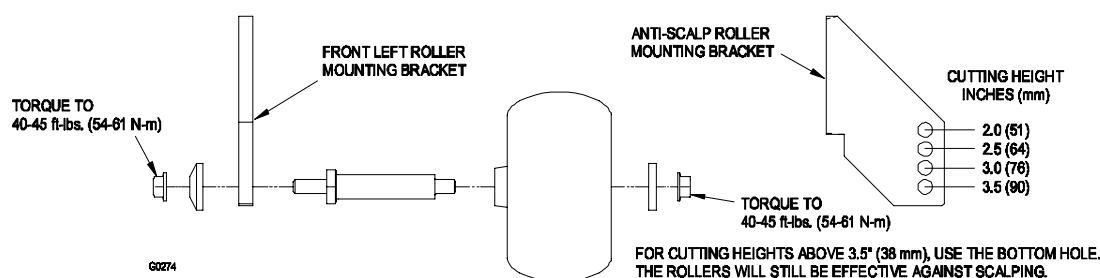

FIGURE 11
- g) Adjust anti-scalp rollers for Normal Operating Conditions. Stop engine, wait for all moving parts to stop, and remove key. Engage parking brake. Place rollers in one of the positions shown in Figure 11. Rollers will maintain 3/4 in. (19 mm) clearance to the ground to minimize gouging and roller wear or damage.